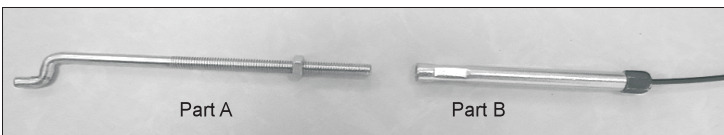

Fig. 4A
1. Splitting the self-drive control wire assembly into part A and part B. (Fig.4A)